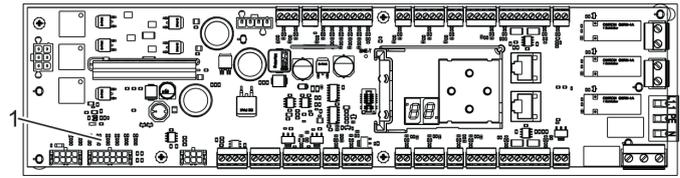

Fig. 137 Status LED of the controller
Check the status LEDs (Fig. 137/1) of the motion sensors according to the following specifications:
4. Check the status LEDs (Fig. 137/1) of the safety sensors according to the following specifications: